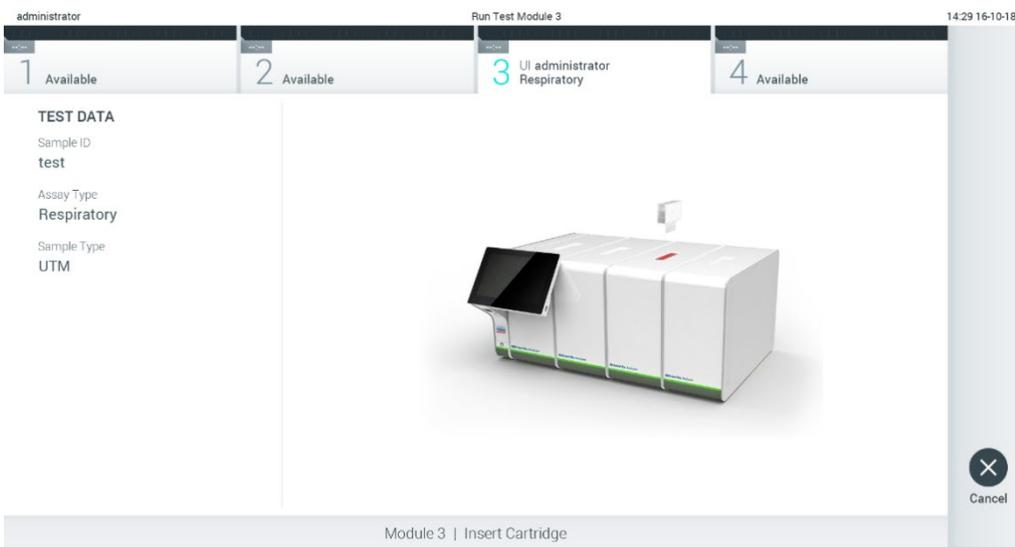

Figure 27. Inserting QIAstat-Dx assay cartridge into QIAstat-Dx Analyzer 1.0.
- Make sure that both sample lids of the swab port and main port of the QIAstat-Dx assay cartridge are firmly closed. When the cartridge entrance port on the top of the QIAstat-Dx Analyzer 1.0 automatically opens, insert the QIAstat-Dx assay cartridge with the bar code facing to the left and the reaction chambers facing down (Figure 27).